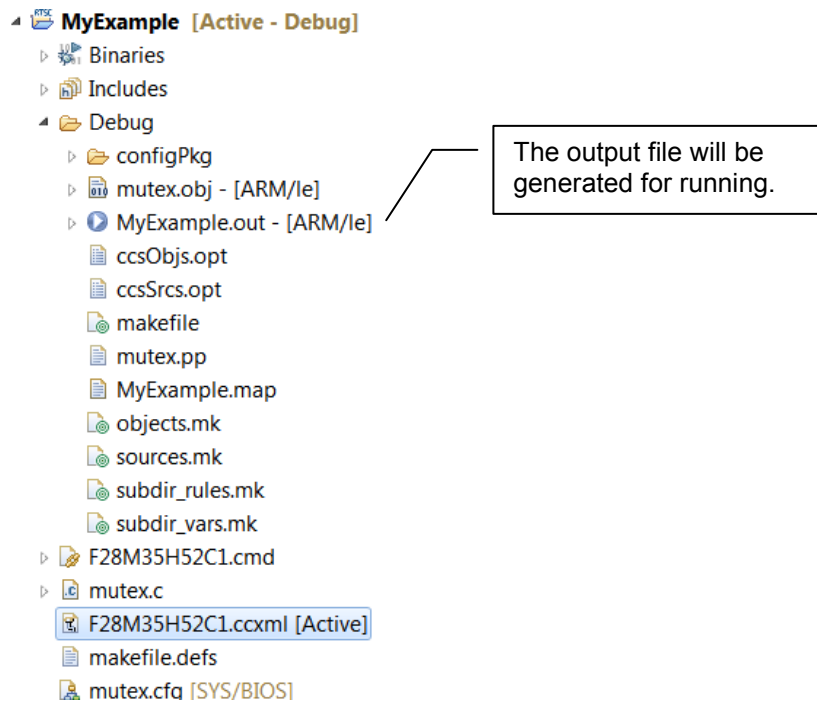

Figure 7. CCS Project Explorer Window
2. Right-click on the project name and select the Build Project command in the popup menu (see Figure 7).